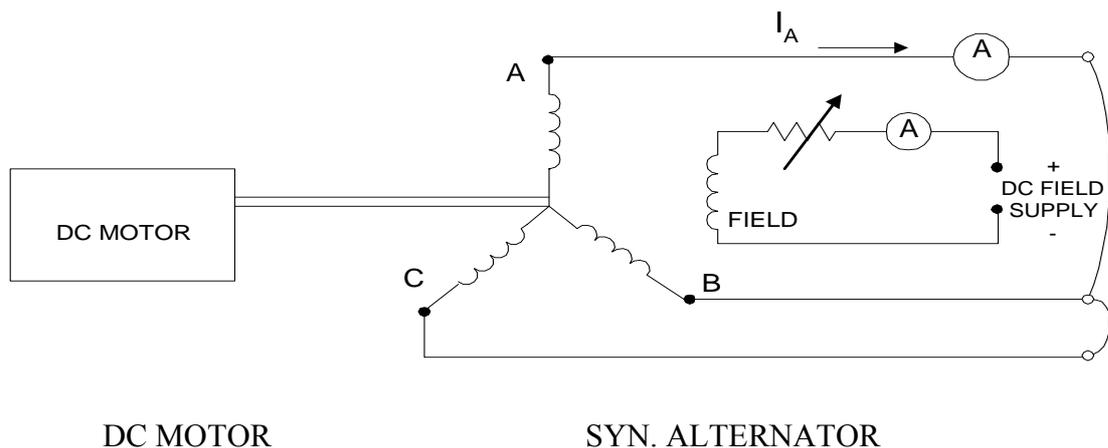

Fig.2 The Short Circuit Test
5. Vary the field current in steps by varying the rheostat in the field circuit and/or the supply voltage. Record the line-to-line voltage (E) and the field current I_f . Make sure that the speed remains constant through the whole test.
7. Stop the motor and connect as in fig .2 for the short circuit test of the alternator